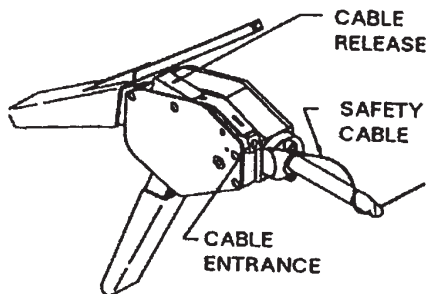

Figure 7-23. Pre-Set Tension Safety Cable Application Tool
(2) Securely join the parts to be soldered before any soldering is done.
(3) As shown in figure 7-23, hold the soldering iron beneath the splice being soldered with as much mechanical contact as possible to permit maximum heat transfer.
(4) Apply the solder, Federal Specification QQ-S-571, to the splice.
a. Pre-Set Tension Tool. (Figure 7-23.) Insert the free end of the cable into the cable entrance and continue to push the cable into the cavity. When the free end of the cable appears at the bottom of the tool, grip the cable and pull the slack from the cable by repeatedly closing the tool handle allowing the handle to open fully before closing again. When all slack is removed from the cable, snug the tool against the fastener by using several short strokes of the handle. Release the handle to the full open position and fully close the handle to crimp securely and cut flush.